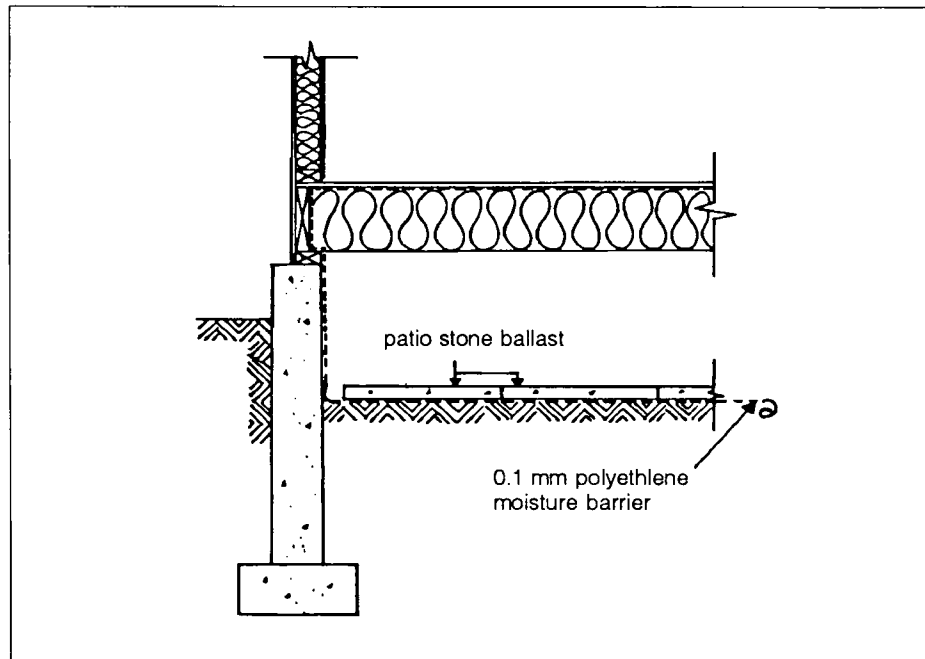

Fig. 25. Moisture barrier over ground covers
- Install a moisture barrier on the exposed ground in the crawl space. The moisture barrier could be 50 mm (2 ") asphalt, 10 MPa (1,500 PSI) Portland cement concrete, 2.2 kg/m² roll roofing or 0.10 mm polyethylene film. The joints should be lapped more than 150 mm (6") and should be weighted down with stone or some other suitable ballast material (fig 25). Air seal the crawl space from the ground surface.